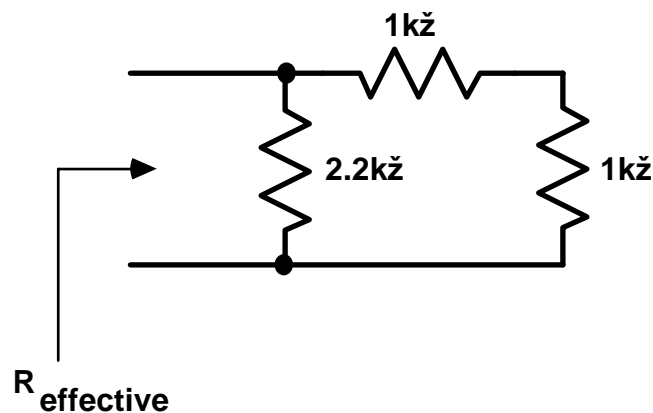

Figure 5.3
- (I) Simplify the network in Figure 5.3 to a single, effective resistance.
(2) Use the multimeter to measure the value of the individual resistors for the circuit of Figure 5.3. Then construct the circuit and measure the effective resistance.